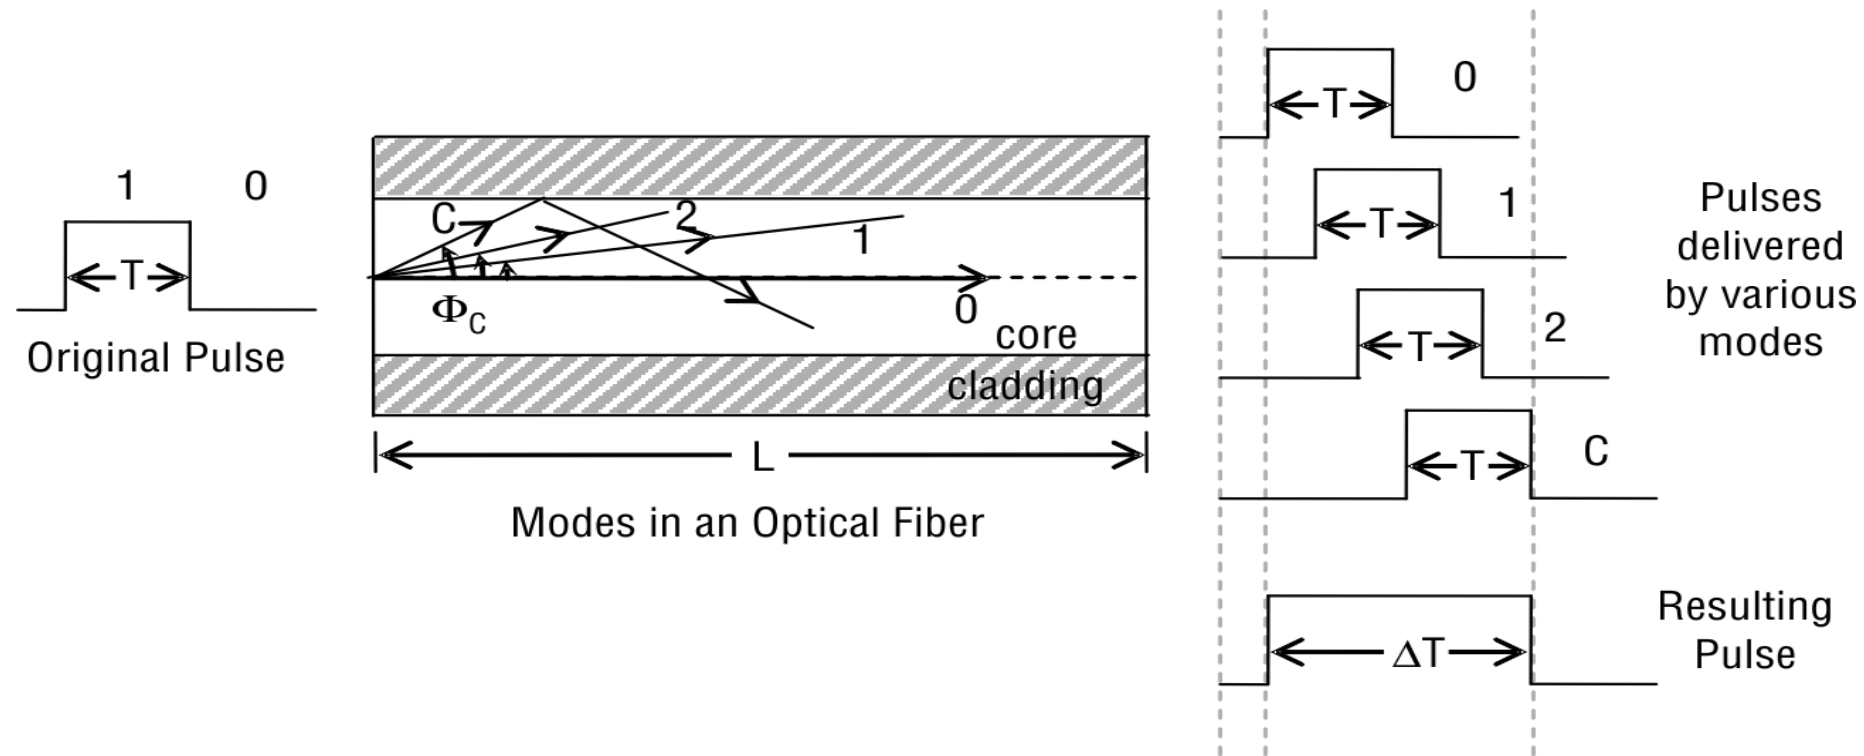

Fig. 23: Effect of intermodal dispersion
- Fig. 23 depicts a typical phenomenon of pulse broadening created by four different modes of an incident light beam propagating through the optical fiber.